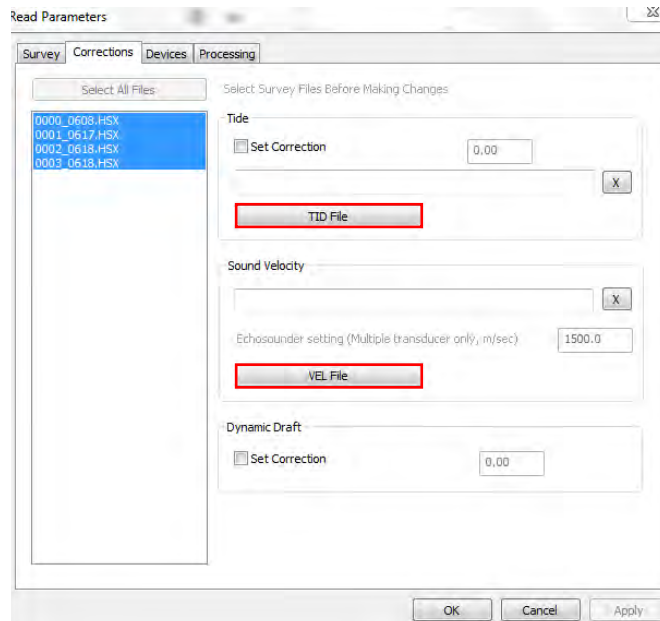

Figure 58: Load correction files on the “Corrections” tab
- ⇒ “Corrections” tab (Figure 58)